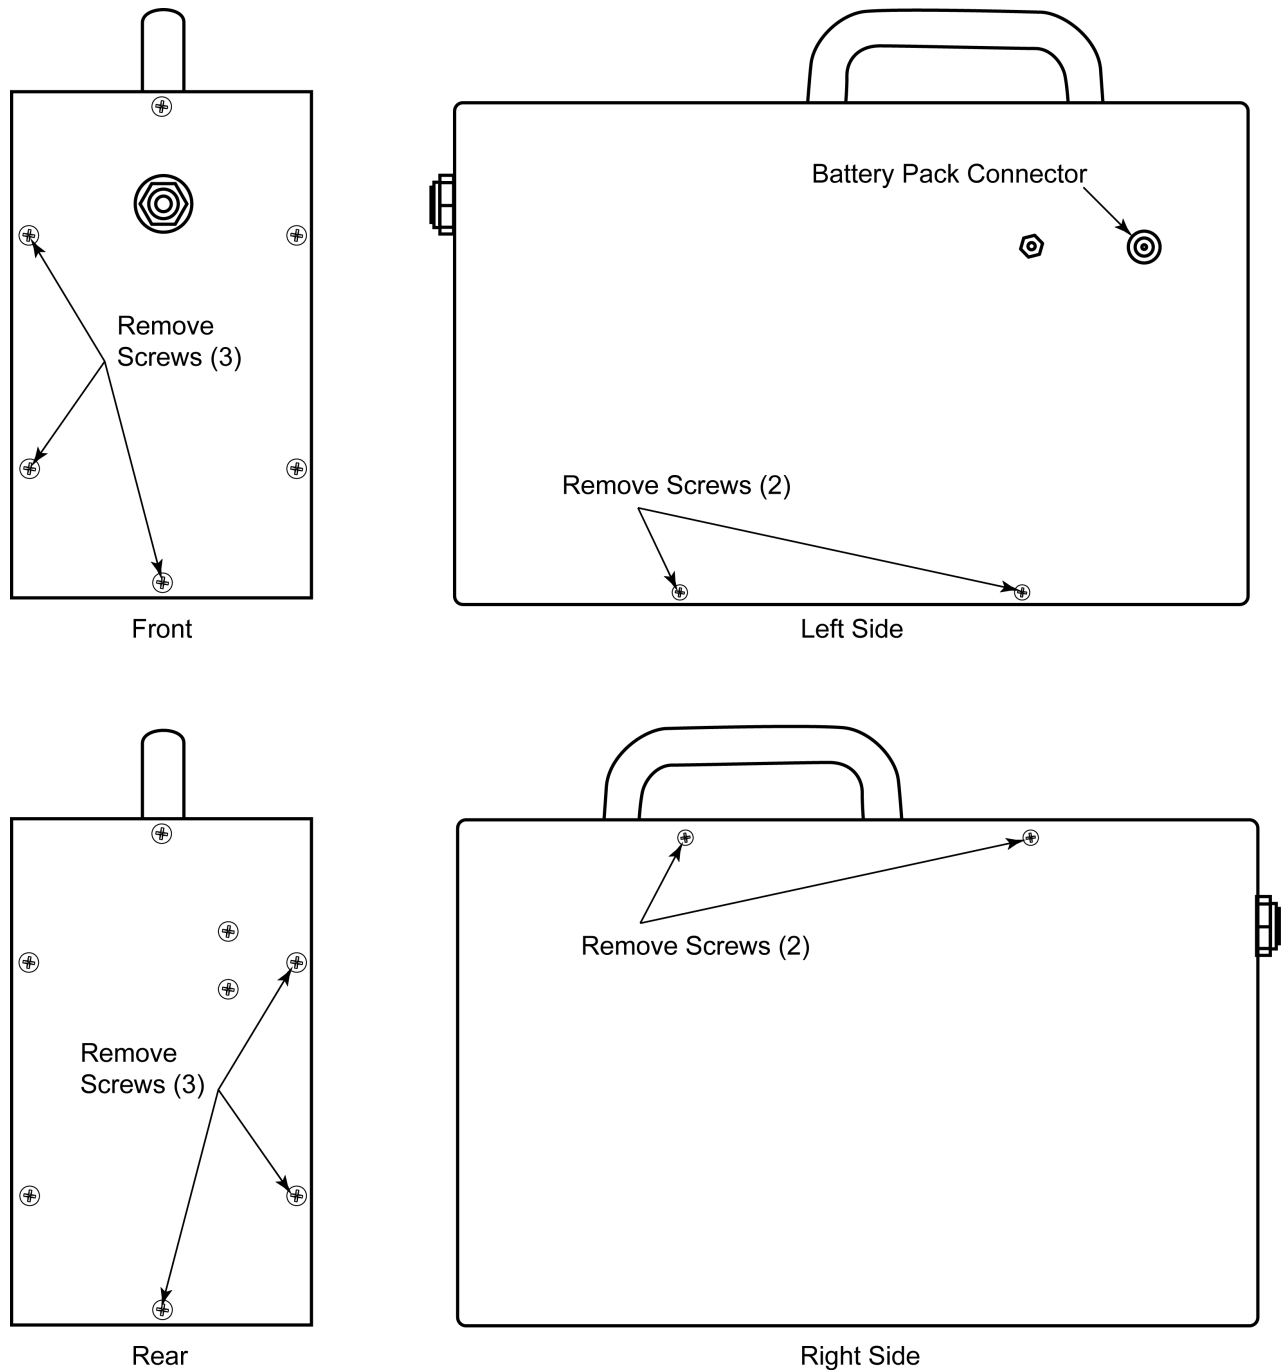

Figure 2 – Disassembling the Chassis
3. Remove a total of 10 screws from the locations shown in Figure 2.